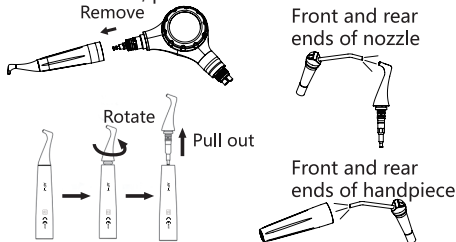

Figure 10 Schematic diagram of handpiece cleaning
① Remove the handpiece of the air poishing gun, unscrew the spray-head and pull out it, as shown in Figure 10;
② Aim the air gun at the nozzle and blow out the powder inside the nozzle;
③ Use an air gun to blow the front and rear ends of the handpiece to clean the remaining moisture on the handpiece.
④ If the nozzle is blocked, please use the needle to clear it.